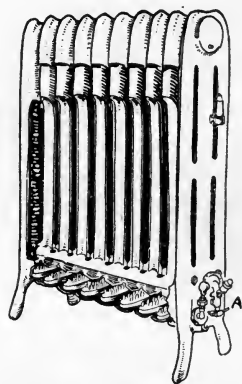

FIG. 42. Gas radiators.
82. Gas Radiator Heaters. Gas radiators (Fig. 42) are another type of gas heater. The radiator is a coil of pipe. The heating unit is below the coil and works like any other Bunsen burner. A small amount of water is kept in the pipes. There is a device attached to the radiator to automatically adjust the height of the gas fire (A, Fig. 42).